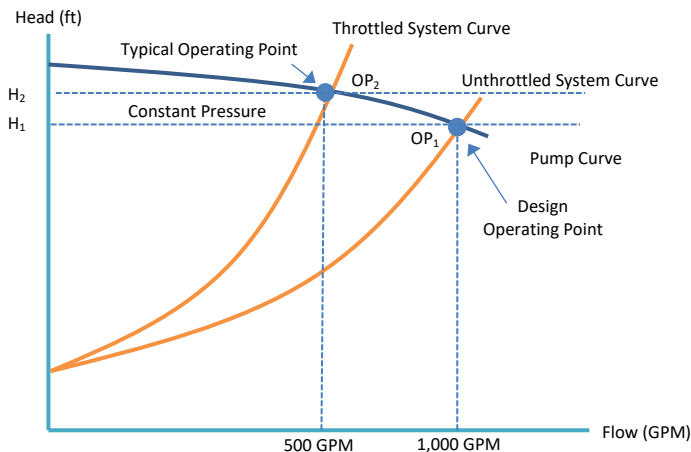

Figure 4-4 Pump and System Curves
2-Way Control Valves: A system using 2-Way Control Valves (CV) to vary the flow by modulating the valve positions. Closing the valve reduces flow and increases friction. A typical operating point for a 2-Pipe system is shown at OP_2 in Figure 4-4. This point occurs for a particular partial-load flow obtained by adjusted the control valve. The flow at this point decreases as desired but at an increased system head, so the operating point rides up the pump curve from OP_1 to OP_2 .